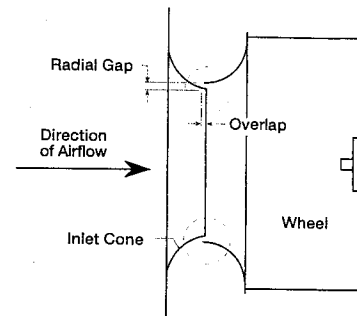

Fig. 4
2. The wheel should be aligned as shown in Fig. 4. Although the wheel position is preset and the unit is test run at the factory, movement may occur during shipment.
Unit running backwards.	Correct as shown in Fig. 4.